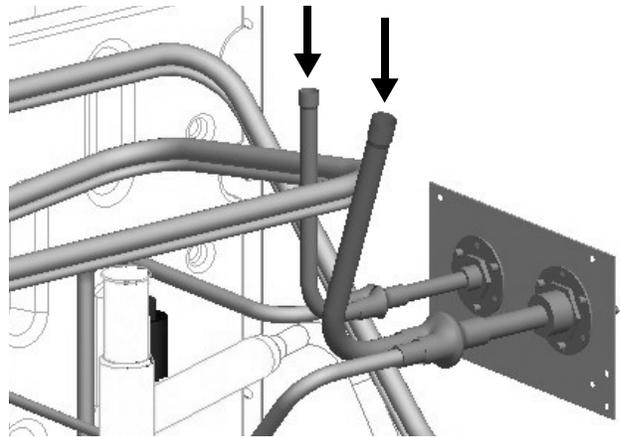

Figure 35.
39. Pinch off and braze shut the charging ports behind the Aeroquip fittings (Figure 35).